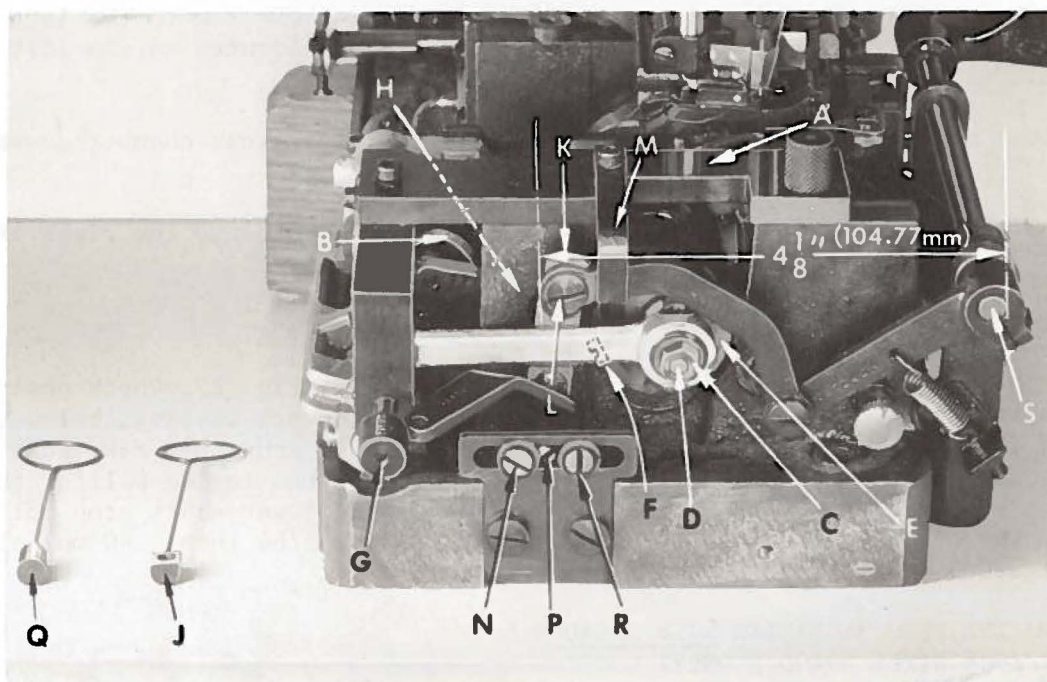

Fig. 4
The feed mechanism is set in the assembly department by using gauge No. G21227 L (A, Fig. 4). To adjust feed rocker segment (B), loosen nut (C). (CAUTION! NUT HAS A LEFT HAND THREAD). Adjust the feed crank stud (D) in the slot of main shaft (E) by the regulating screw (F) so that the pin (G) of the gauge fits into the hole of the feed rocker shaft, when the upper part of the segment of the rocker (B) is in its end
CAUTION! BE SURE THAT THERE IS 1/32 INCH (.79 mm) SPACE BETWEEN THE FEED ROCKER SEGMENT (B, Fig. 4) AND THE BED AT THE LARGEST STITCH LENGTH.